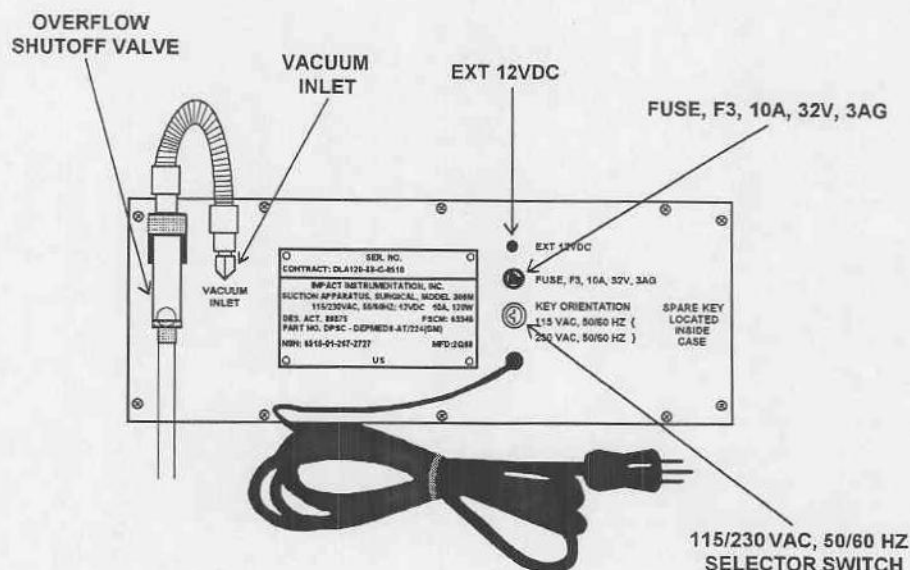

Figure 2-4. Rear panel controls and indicators.
b. Rear panel controls and indicators (fig 2-4).